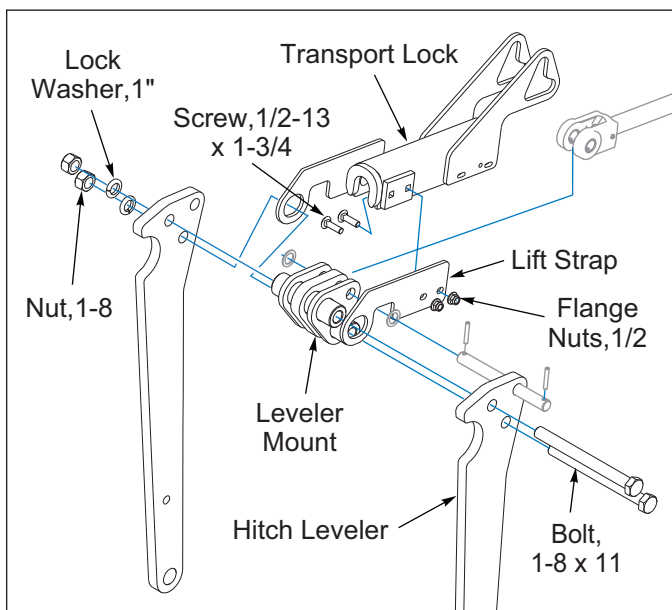

Figure 2-12: Leveler Mount / Hitch Leveler Detail
5. Remove 1-8 x 11 Bolts that secure the Leveler Mount at the top of the Hitch Leveler. Remove Lift Strap from the Transport Lock by loosening the 1/2" Flange Nuts. Place the Lift Straps on each side of the Leveler Mount and reassemble with 1/2" Flange Nuts and 1/2-13 x 1-3/4 Screw. Replace 1-8 -11 Bolts, 1" Lock Washers and 1-8 Nuts. **See Figure 2-12.**